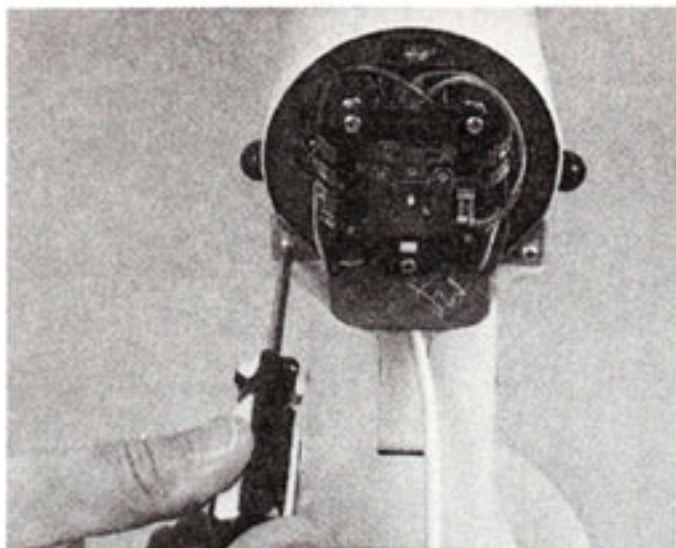
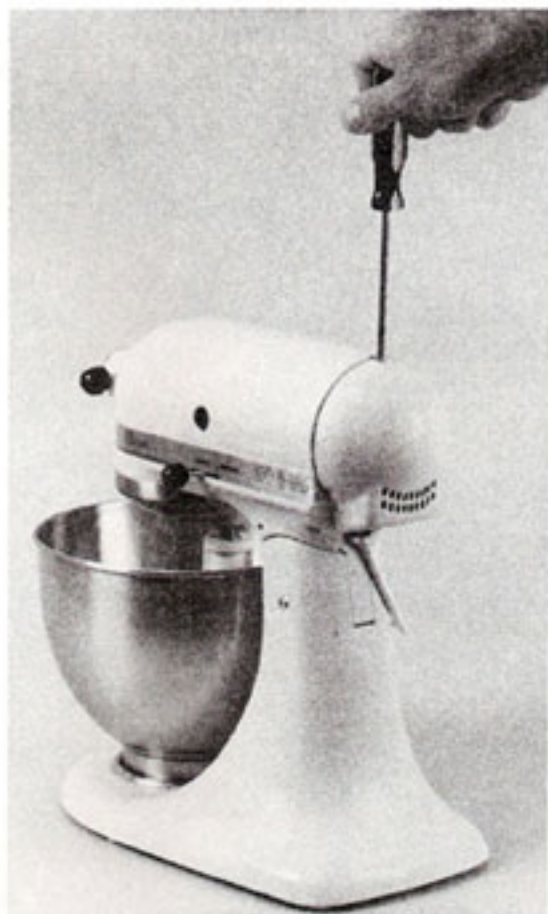

Fig. 83
Fig. 84
- G. Place trim band (Fig. 83) on the gear case and motor housing and with the two #6-32 x  $\frac{3}{16}$ " binding head screws, fasten it to the end of the housing. Tuck in all the wire leads and place the end cover on end of machine and secure it with the #6-32 x  $\frac{3}{8}$ " oval head screw (Fig. 84).